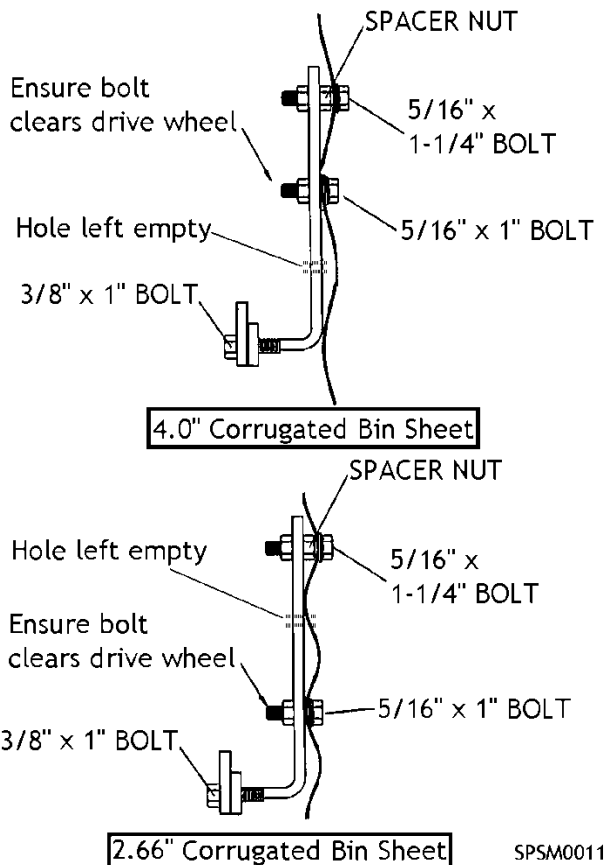

Fig. 6 – Side view of track mounted on Sukup bin sheets not punched for track, and on sheets from other companies
- B2 Tighten 5/16" spacer nuts onto these bolts. See Fig. 6.
B6.1 *Note:* Leave unused track bracket holes empty. See Fig. 6.
C3 Insert 5/16" x 1-1/4" bolt through top bolt holes. See Fig. 6.
C4 Mount first segment of track over bolts and screw on 5/16" nuts. See Fig. 6.
C5 Insert 5/16" x 1" bolts in lower holes of track bracket and add 5/16" nuts. Tighten using 1/2" wrench. See Fig. 6.
C5.1 *Note:* Leave unused track bracket holes empty. See Fig. 6.